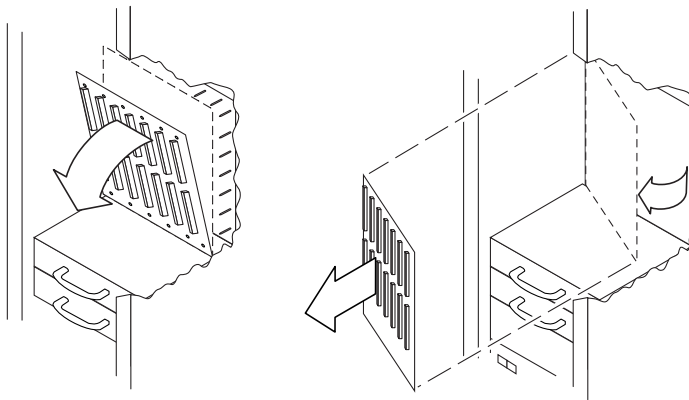

FIGURE 12-8 Removing the System Centerplane—Sun Fire 6800 System
14. Remove the centerplane (FIGURE 12-8) as follows:
1. Insert and align the centerplane within the chassis cabinet (FIGURE 12-8 on page 12-6).